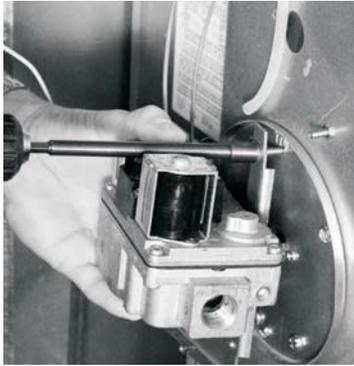

FIGURE 3: Gas Valve Removal
5. Remove gas valve. See Figure 3.